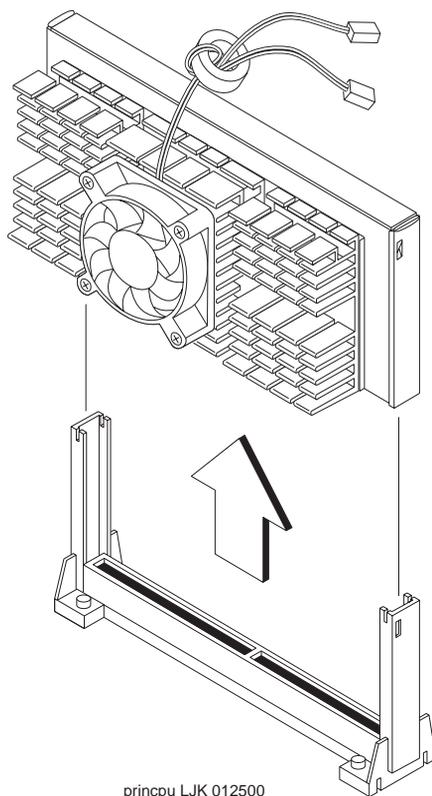

Figure 6-6. Removing the MAP/5PV3 CPU
9. Remove the CPU from the old motherboard (Figure 6-6 on page 6-9). Unsnap the retaining clips from each end of the CPU assembly. Slide the CPU up and out of the slot.